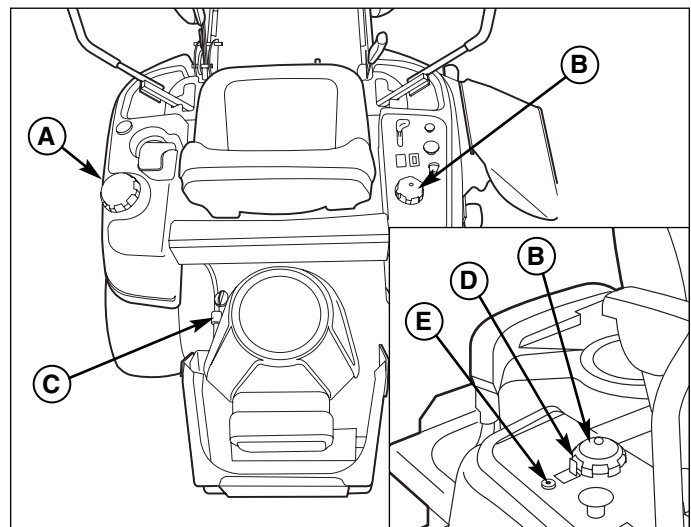

Figure 18. Maintenance
1. Remove the fuel cap (see A, Figure 18).
3. Using a pliers, open and slide hose clamps from fuel filter (C, Figure 18).
2. Before removing the reservoir cap, make sure the area around the reservoir cap and fill neck of the reservoir is free of dust, dirt, or other debris. Loosen the locking capscrew (E, Figure 18) securing the locking tab (D), slide the lock tab back, and remove the cap (B).